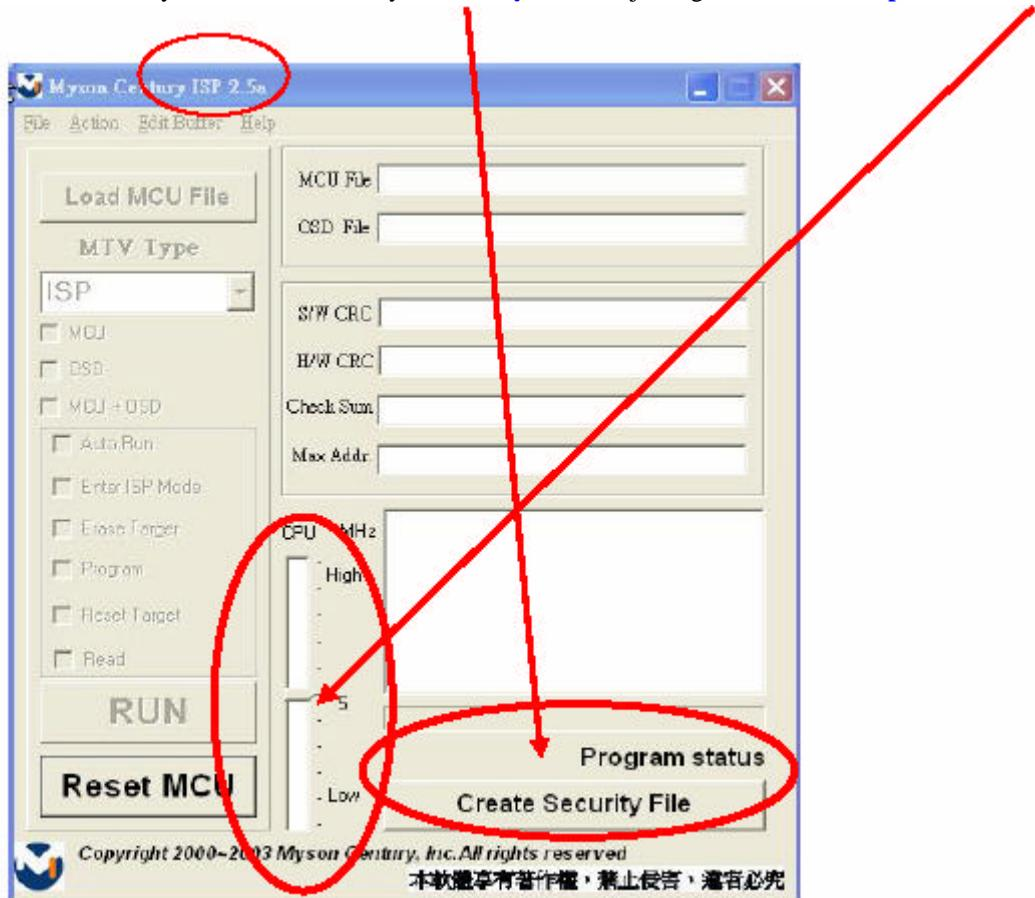

Fig 3.4
2.4 Press “Create Security File” button to key in **security code**. Adjusting bar to decrease **speed of IIC bus**, see Fig 3.4.